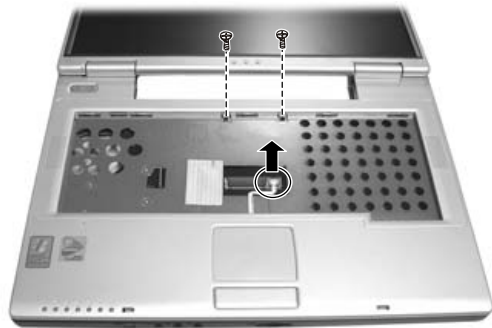

Figure 2-20 Free the Top cover
4. Remove the two screws and disconnect the touch pad's cable, then free the top cover.(Figure 2-20)